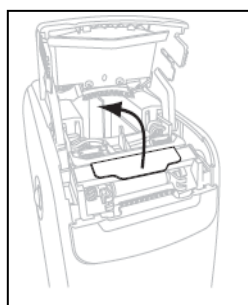

Figure 7
5. Refer to Figure 7. Grasp the metal lever plate on the printhead assembly and rotate upward to expose the printhead elements.